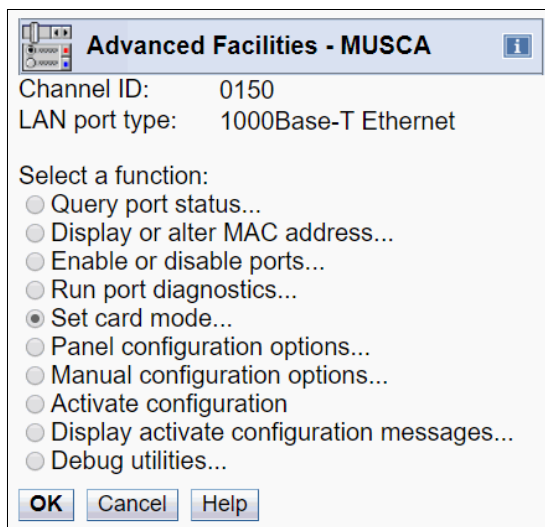

Figure 6-21 Selecting Card Mode definition
3. Select **Set card mode** and click **OK** (see Figure 6-21).